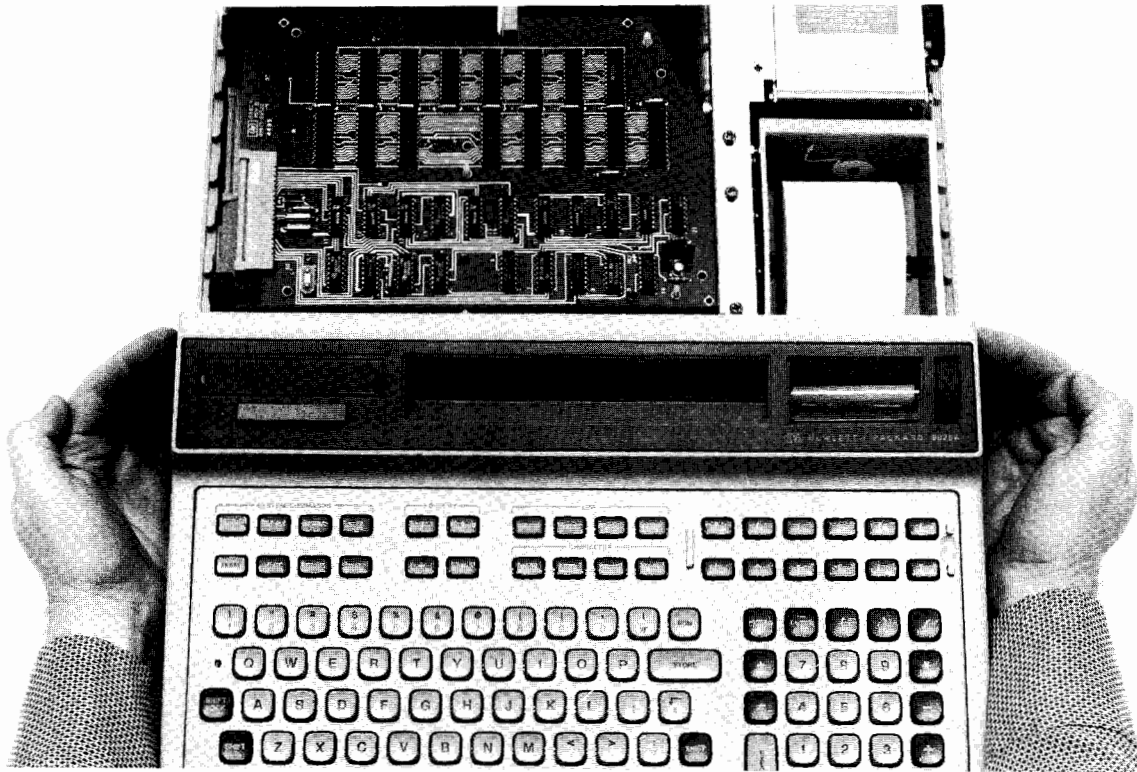

Figure 2-4 Sliding the Bezel Forward
2. Slide the bezel forward with respect to the base. Do this by holding the base in position with the heels of your hands (as shown in Figure 2-4) and then pushing the bezel forward with your fingers about 10 mm until it stops.